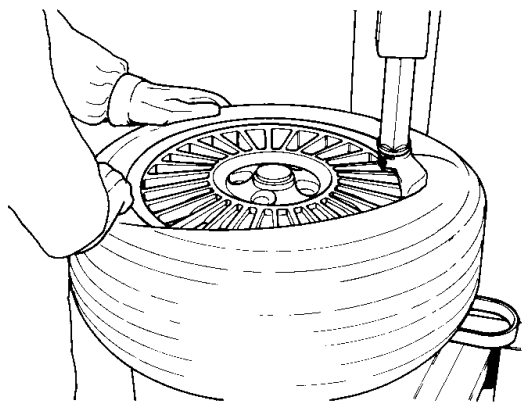

Fig.16
**G.** Rotate the turntable clockwise (pedal down) and, at the same time, push down on the tire sidewall to move the bead into the drop center of the rim (Fig.16).